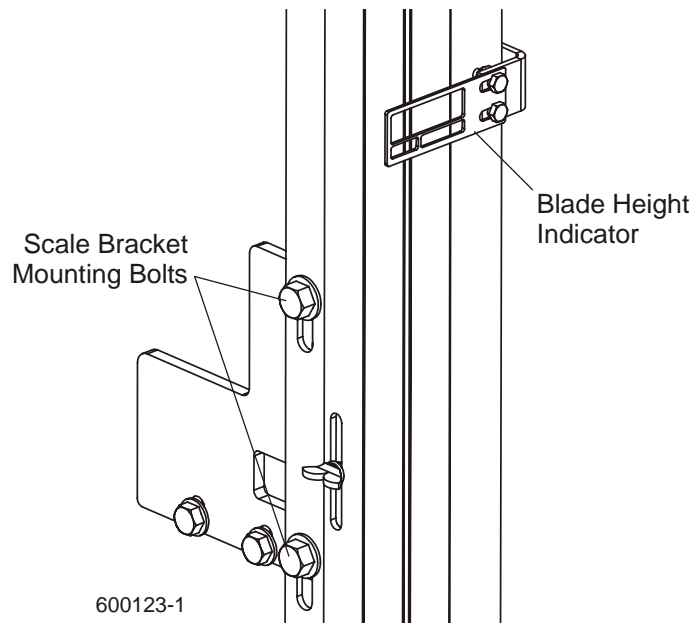

FIG. 7-49
**See Figure 7-49.** Loosen the scale bracket mounting bolts. Adjust the bracket up or down until the indicator is aligned with the correct mark on the scale (+0 -1/32 [0.8 mm]). Retighten the bracket mounting bolts.